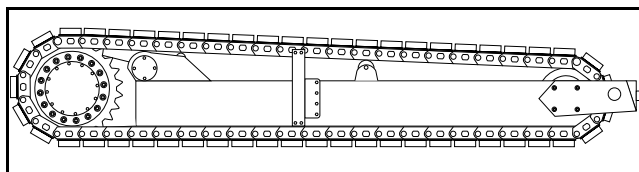

Figure 6 - 10 Install track pad
- 10) Once the master link is connected, apply Loctite to bolts and install track pads. (Figure 6 - 10)